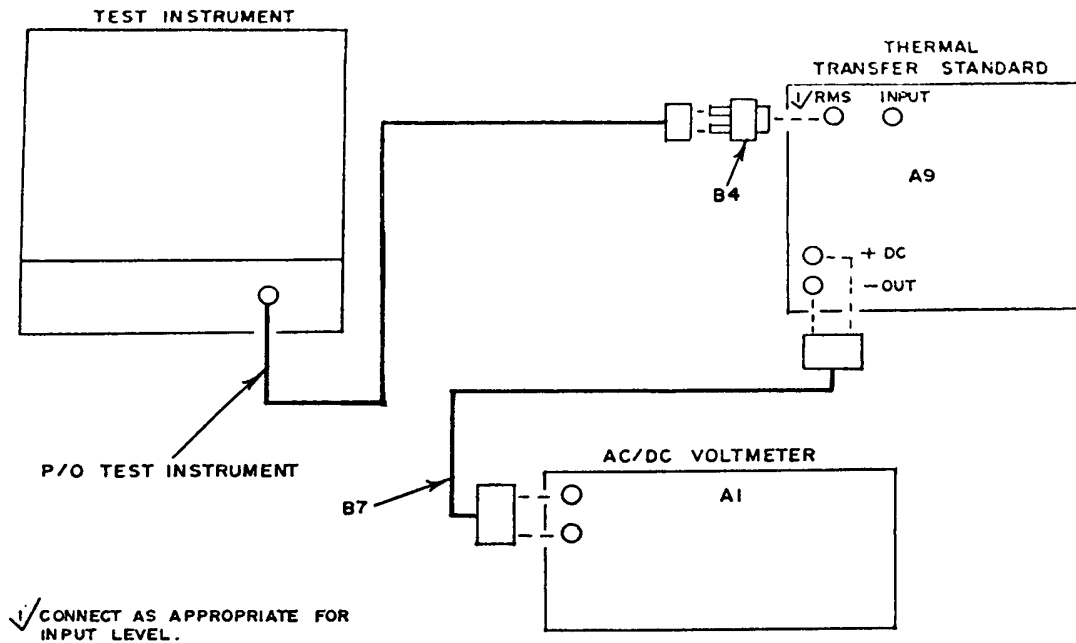

Figure 5. High - equipment setup.
(1) Connect equipment as shown in figure 5.